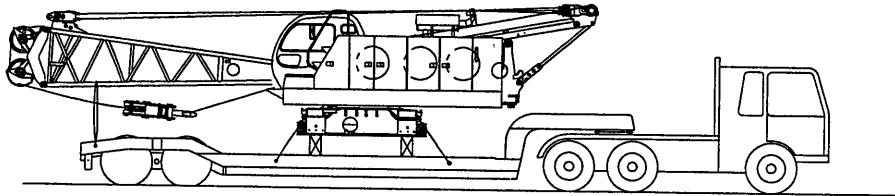

Fig. 11-27
(13) Fix the machine to the trailer, and remove the wooden blocks under the trailer. (Fig. 11-27)